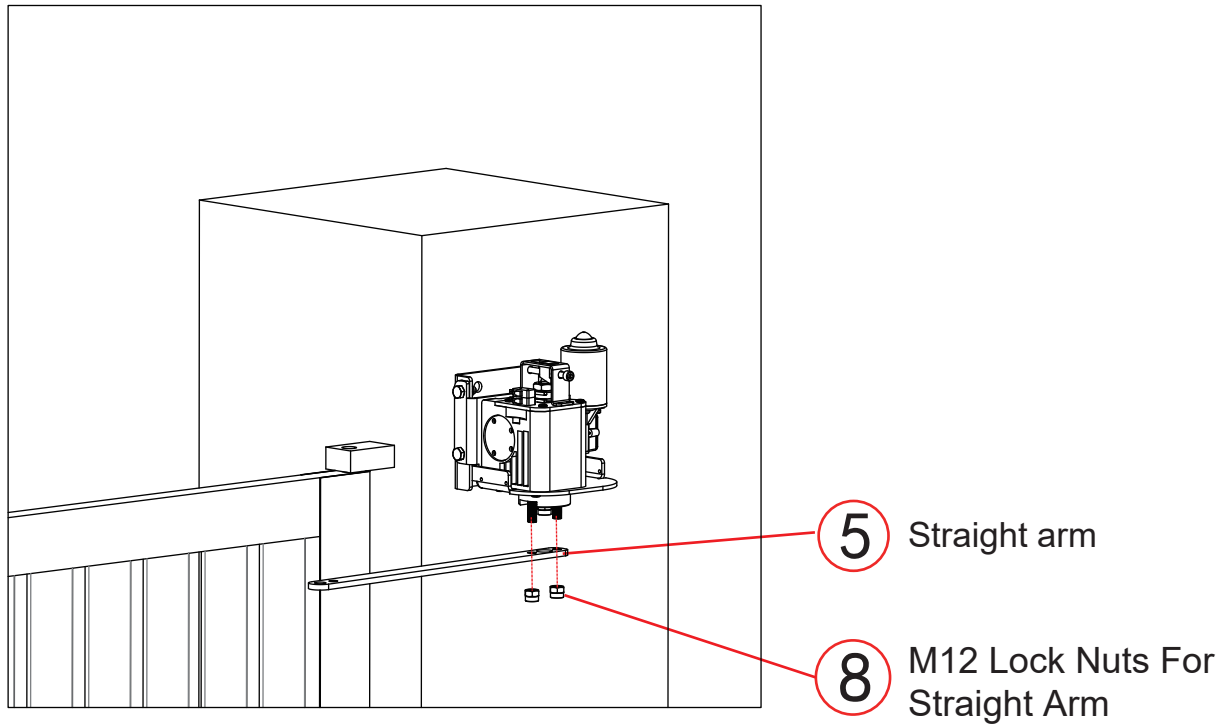

Figure 3
3. Fixing the ⑤ straight arm with ⑧ M12 lock nuts. Refer to the Figure 3.